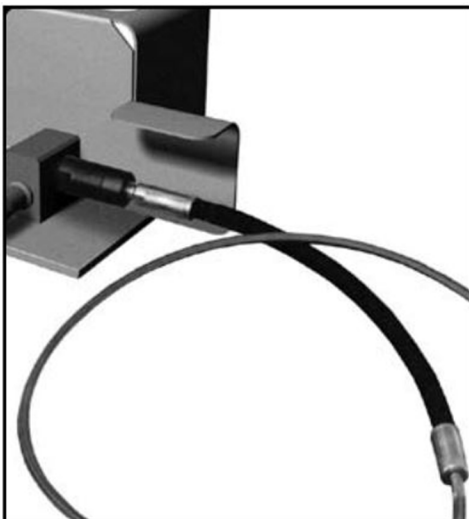

Fig. 9: Strain Relief Hose
- Lance Strain Relief Hose (Fig. 9) – Helps prevent kinking of flex lances to extend service life and prevent failures.